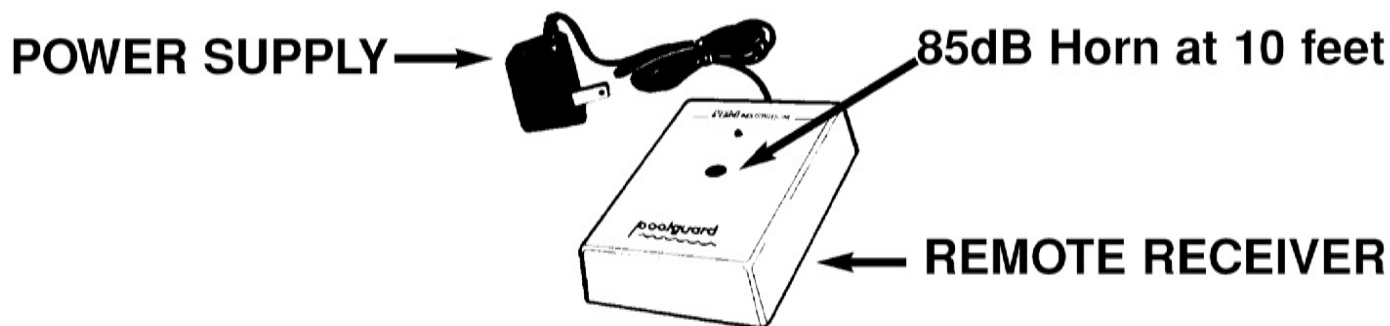

FIGURE 5
- A coded pulse receiver (Remote Receiver). Figure 5
- A standard wall outlet power supply. Figure 5